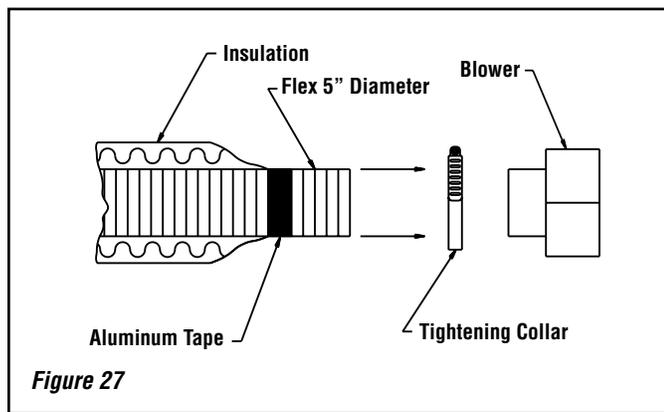

Figure 27
- Attach the flexible pipe to the blower, using the collars (**Figure 27**).